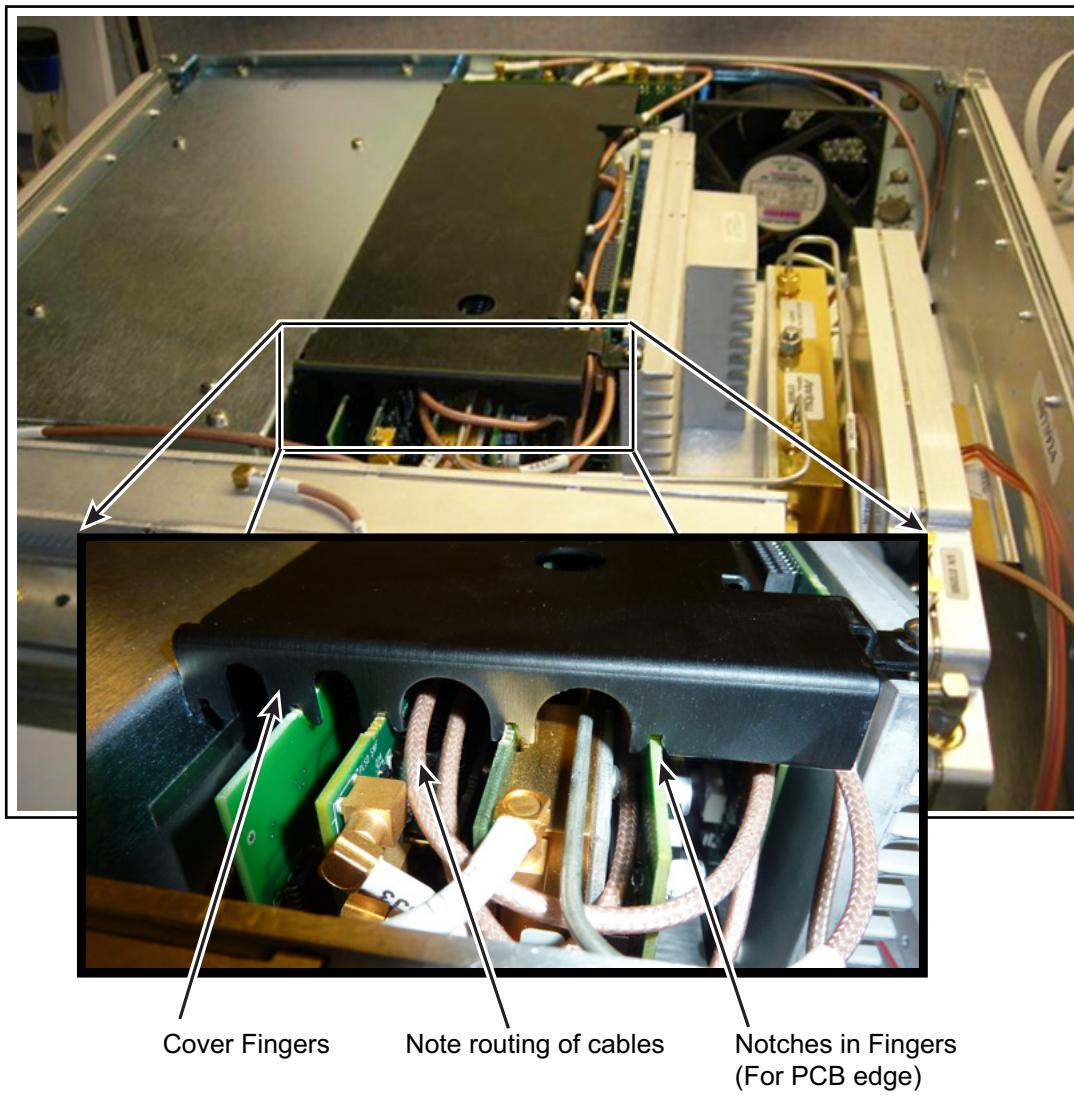

Figure 7-11. Ensuring Cover Alignment
2. As the cover is lowered, ensure that all PC board top edges are aligned with the notches in the fingers at both ends of the cover, and that the cover is not pinching any cables. See Figure 7-11.
Note The PC boards top edges may have to be moved slightly to align them properly with the notches in the cover. Figure 7-11 shows the cover fingers holding the PCB assemblies in place.